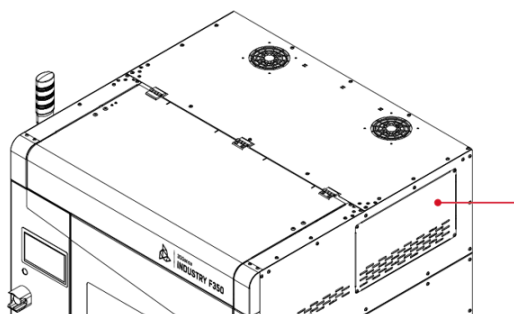

Fig. 111 Right -hand upper service panel
7. Unscrew the right-hand upper service panel (Fig. 111).